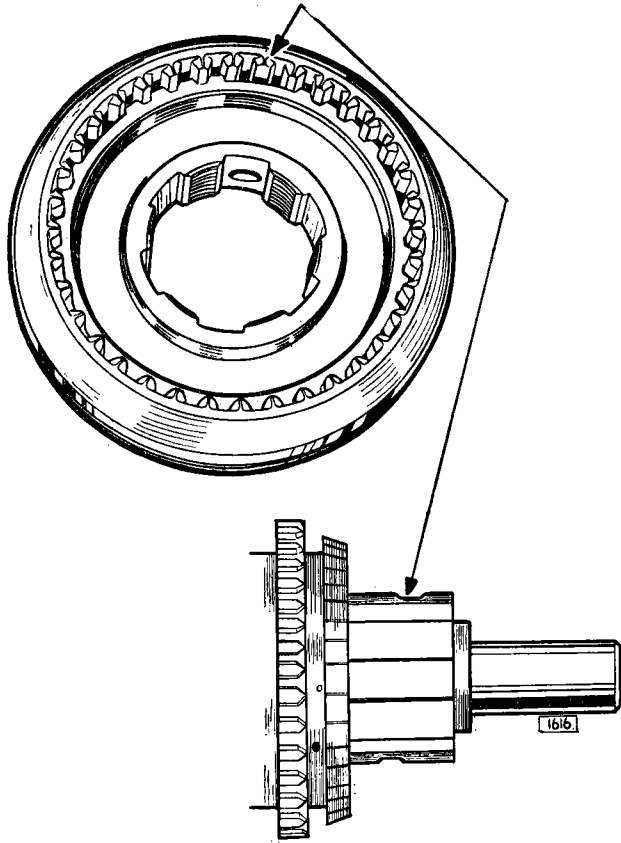

Fig. 18. The relieved tooth at the wide chamfer end of the outer operating sleeve must be in line with the foremost groove in the mainshaft
- (a) There are two transverse grooves on the mainshaft splines which take the 3rd/top synchro assembly and the relieved tooth at the wide chamfer end of the outer operating sleeve must be in line with the **foremost** groove in the mainshaft (Fig. 18). Failure to observe this procedure will result in the locking plungers engaging the wrong grooves thereby preventing full engagement of top and third gears.